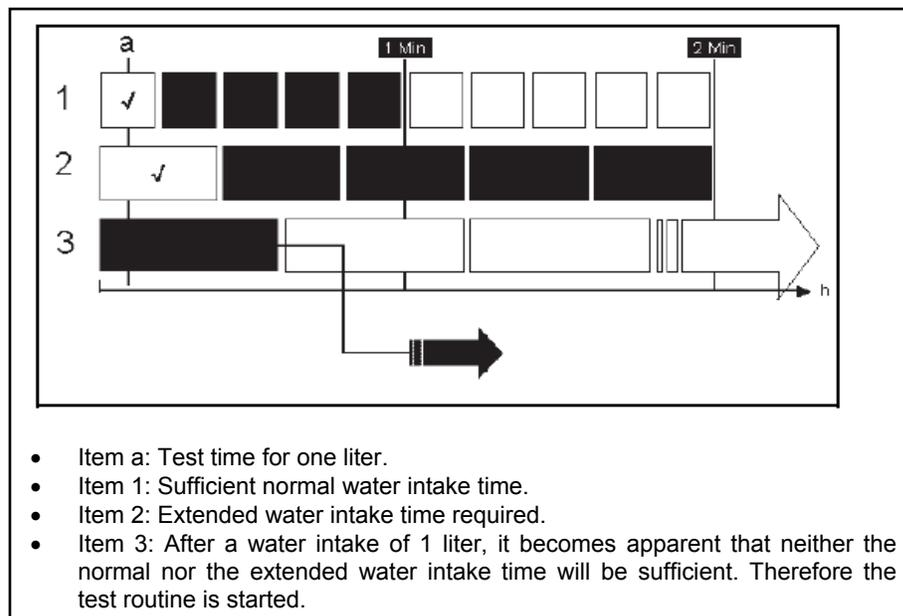

Figure 6-4: F19 - Start rinse block water intake
- As a first step, the water intake valve **Y2** is activated, to let an additional 2 liters into the appliance. The time required for this is calculated based on the time the water intake took for the liter already in the unit (see fig. 6-4).